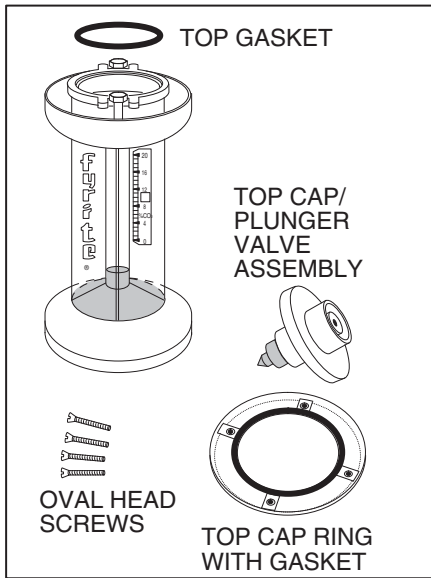

Figure 20. Removing top gasket.
6.3 Replacing FYRITE Fluid (Refer to Figs 20, 21, and 22)